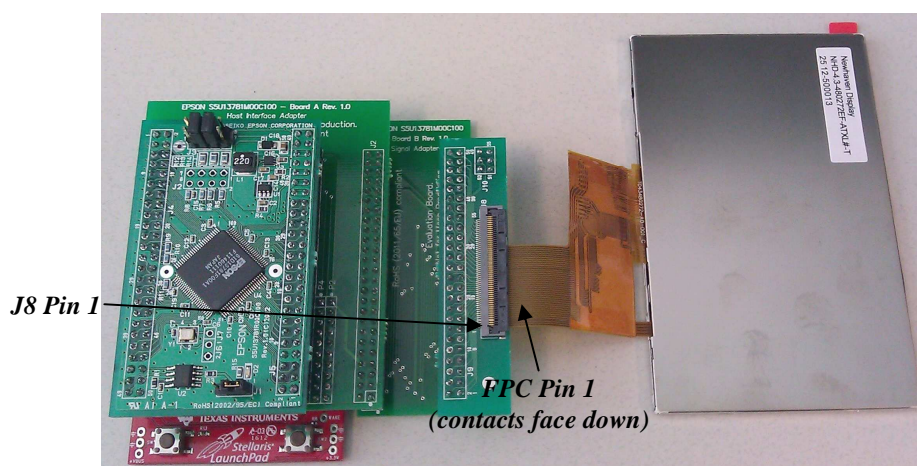

Figure 4 – J8 FPC Connection Example for 40-Pin LCD Module
J8 of the S5U13781R00C100 LCD Interface Board is an FPC connector with bottom side contacts. The FPC of the LCD module should be inserted into J8 with contacts facing down and pin 1 lined up with the pin 1 edge of J8 (see Figure 4).
- 14) Connect the LCD module's FPC to J8 of the **S5U13781R00C100 LCD Interface Board**. Make sure the pads/contacts side of the FPC are facing down and pin 1 of the FPC lines up with the pin 1 edge of J8 (please refer to Figure 4).